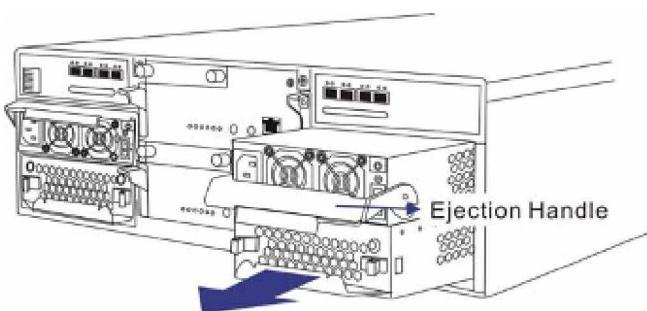

Figure 5-24: Dislodging the PSU
Step 5. Use the handle to gently pull the *PSU module* out of the enclosure. (See *Figure 5-24*)